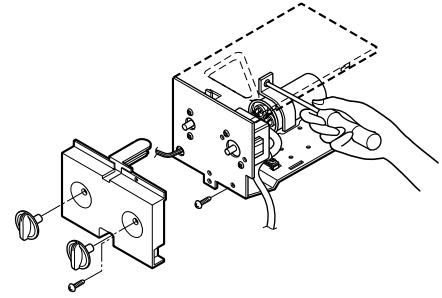

Figure 26
7. Re-install the components by referring to the removal procedure, above. (See Figure 26)